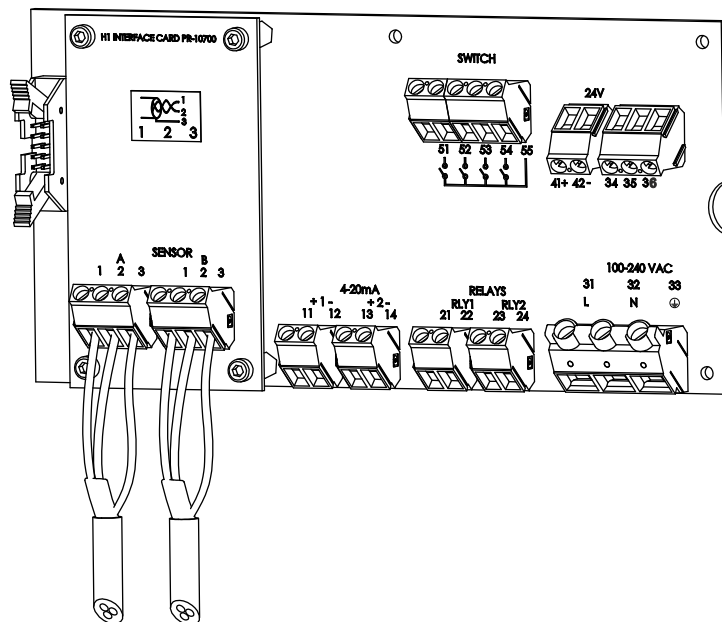

Figure 3.7 Motherboard of the Indicating transmitter for AC power
The cable contains a pair of twisted signal wires (1, 2) and a cable shield (3) (see Section 3.3.2 and Figure 3.7). Standard delivery is 10 meters (33 feet) of cable. The maximum length of an interconnecting cable is 200 m (660 ft). The signal wires (1, 2) are interchangeable (non-polarized). The cable shield is connected to the protective earth at the Indicating transmitter.
Description of the terminals on the H1 interface card PR-10701 and on the Transmitter motherboard PR-10600 (Figure 3.7):
The primary AC power is connected to a separate terminal strip 31/32/33 marked POWER in the lower right-hand corner of the Motherboard (Figure 3.7). The three terminals are marked 31/L, 32/N and 33/⊕ (protective earth). The power terminal 33/⊕ is directly connected to the exposed metal parts of the Indicating transmitter DTR. Wiring to the terminals shall be 1.5mm² minimum. The protective fuse in the building system shall comply with the local requirements.